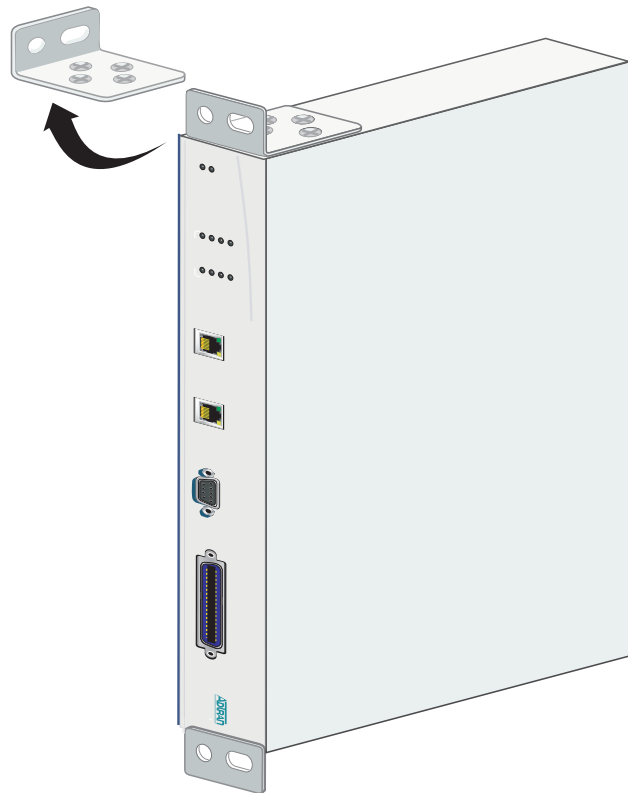

Figure 7. Repositioning the Brackets for Wallmounting
1.	<p>Remove the mounting brackets. (The Total Access 238 ships with mounting brackets attached for a 19-inch rackmount installation.) Rotate them 90° so that the portion of the bracket with the mounting holes (shorter side) is flush with the bottom of the chassis, and reattach them to the chassis (see Figure 7).</p> <p>To avoid damaging the unit, use only the screws included in the shipment when attaching mounting ears to the chassis.</p>